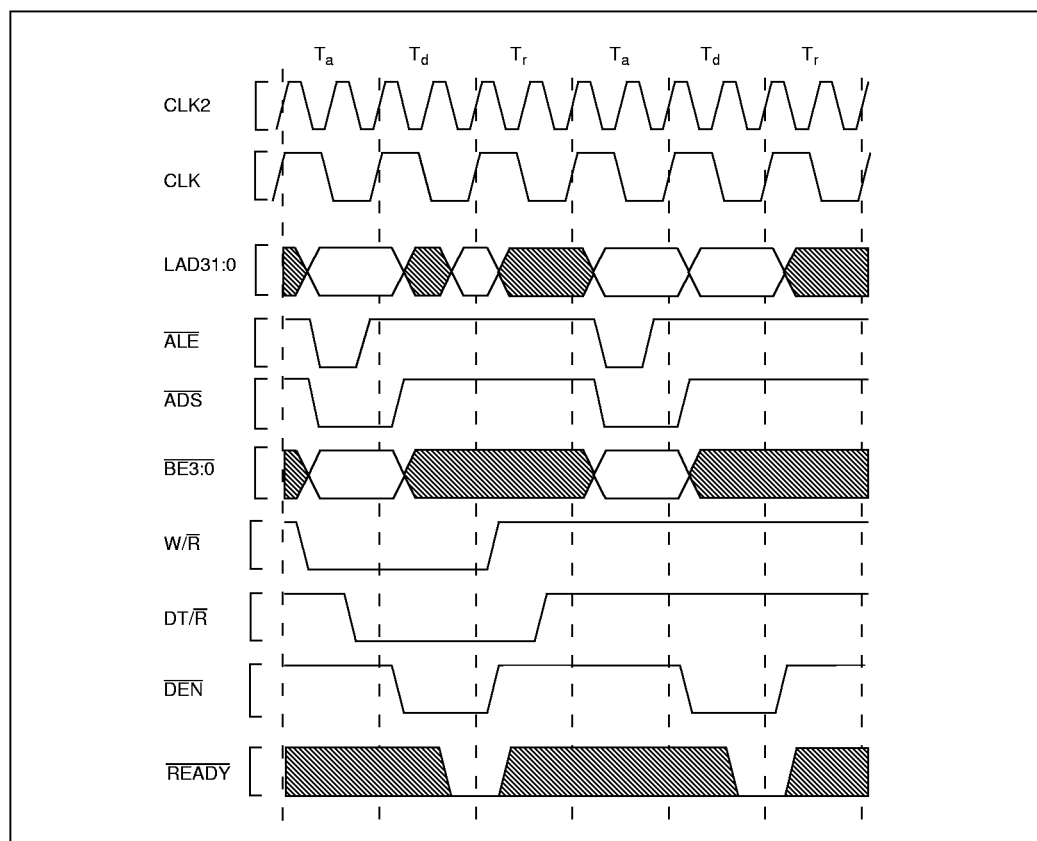
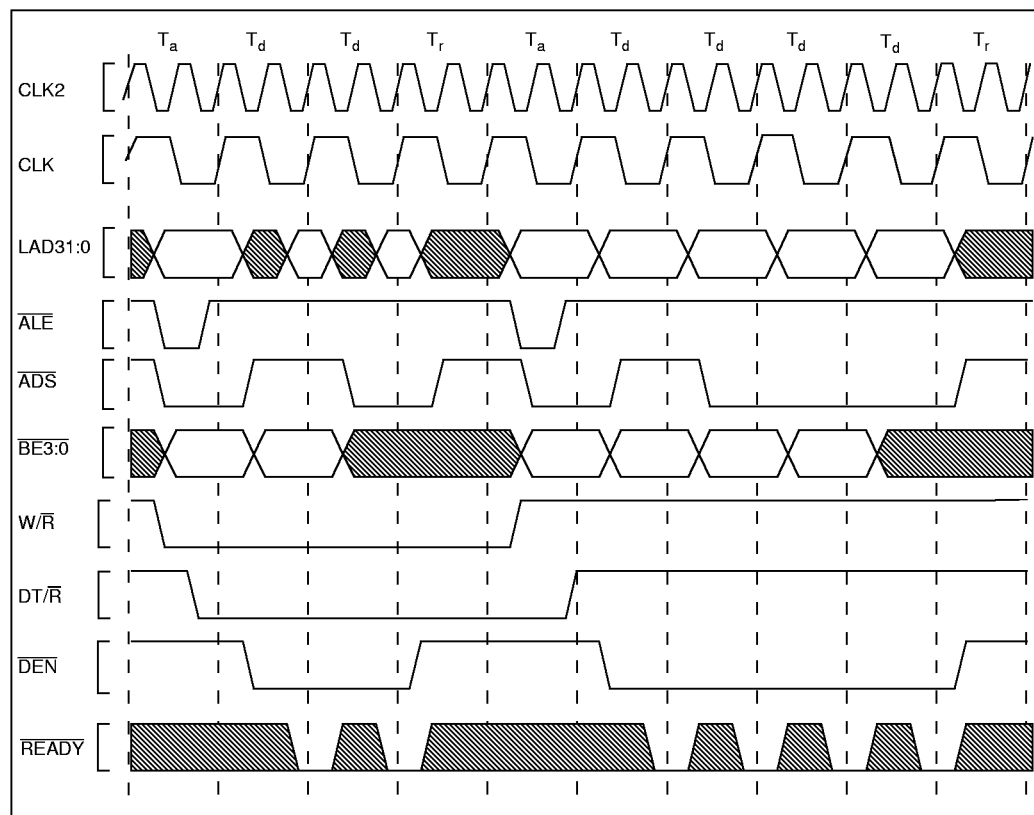
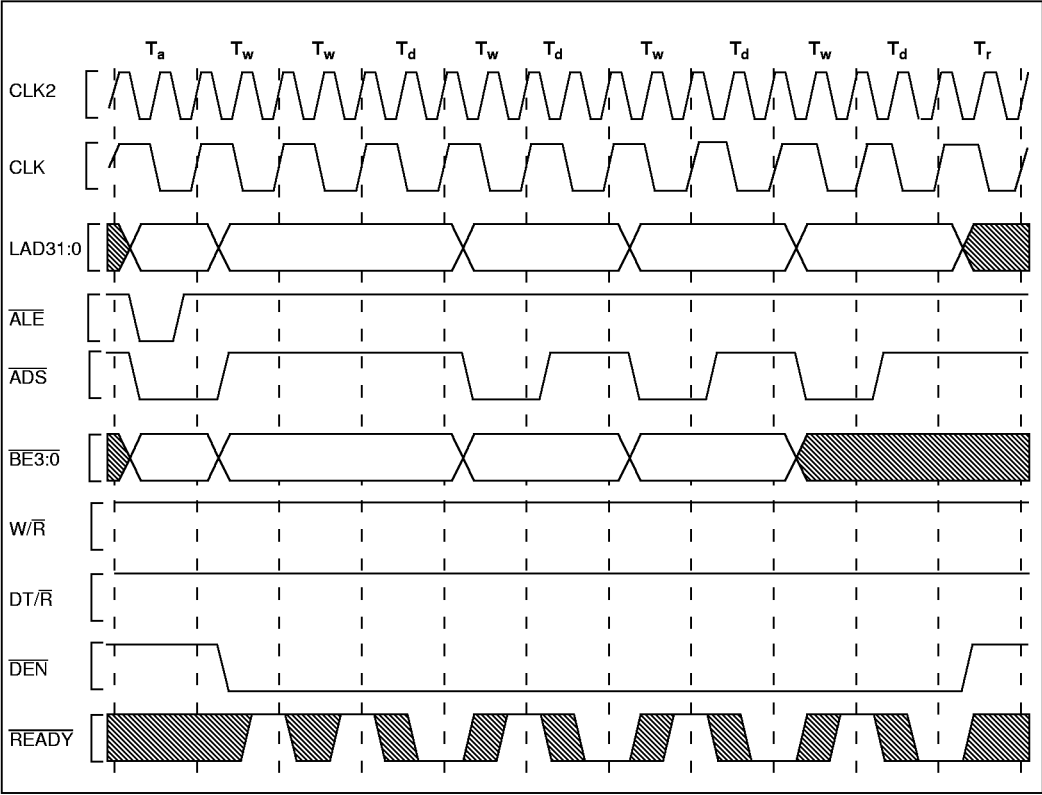

Figure 23. Non-Burst Read and Write Transactions Without Wait States
Figure 24. Burst Read and Write Transaction Without Wait States
Figure 25. Burst Write Transaction with 2, 1, 1, 1 Wait States
Maximum allowable ambient temperature ( $T_A$ ) permitted without exceeding  $T_C$  is shown by the graphs in Figure 23, Figure 24 and Figure 25. The curves assume the maximum permitted supply current ( $I_{CC}$ ) at each speed,  $V_{CC}$  of +5.0 V and a  $T_{CASE}$  of +85° C (PGA).
- Figure 23, Non-Burst Read and Write Transactions Without Wait States (pg. 30)
- Figure 24, Burst Read and Write Transaction Without Wait States (pg. 31)
- Figure 25, Burst Write Transaction with 2, 1, 1, 1 Wait States (pg. 32)